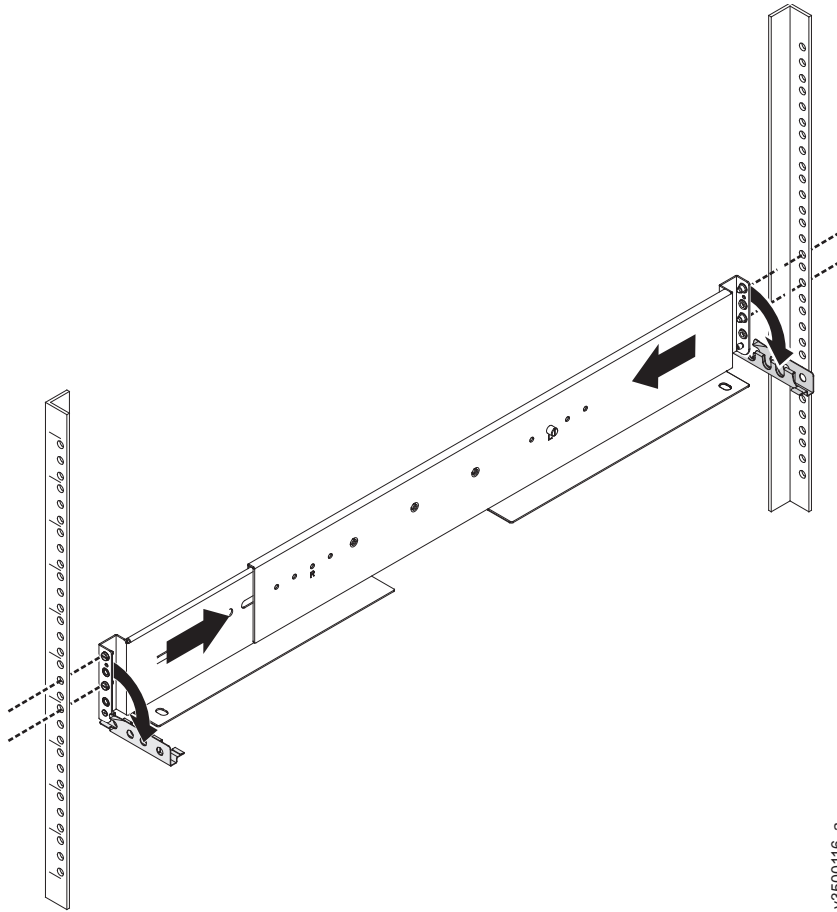

Figure 43. Compressing rail for removal from rack
11. Compress the rail against its spring to shorten it, then remove it from inside the rack (Figure 43 on page 182).